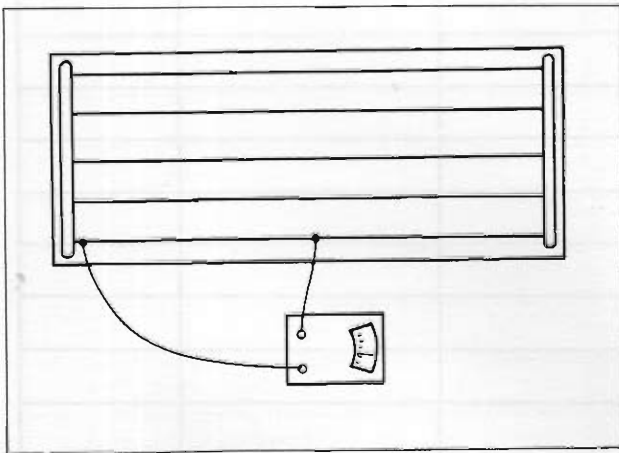

Fig. BE-46 Checking for broken heat wire with ohmmeter
(3) Method 3 – With an ohmmeter setup shown in Figure BE-46, locate one lead on each end of a heat wire and the other in the middle section of that wire. If the meter registers, on a specific grid line, a value twice as much on any other line, that line is broken.